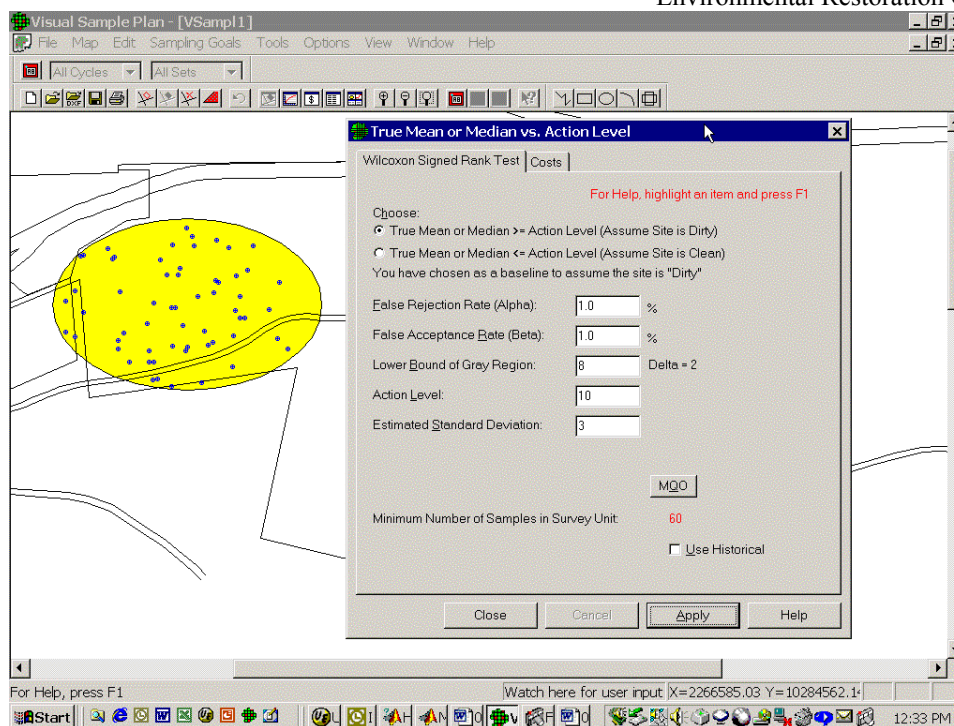

Figure 7. Wilcoxon Signed Rank Test dialog box and simple random sampling design
To make your screen look like Figure 7 below:
- A similar number of sampling locations are mapped as in Figure 7, but in a random-start grid pattern rather than a simple random pattern.